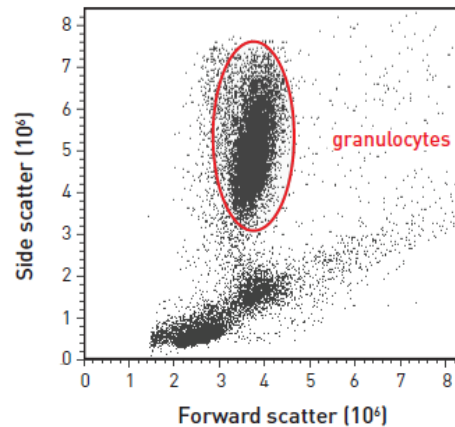
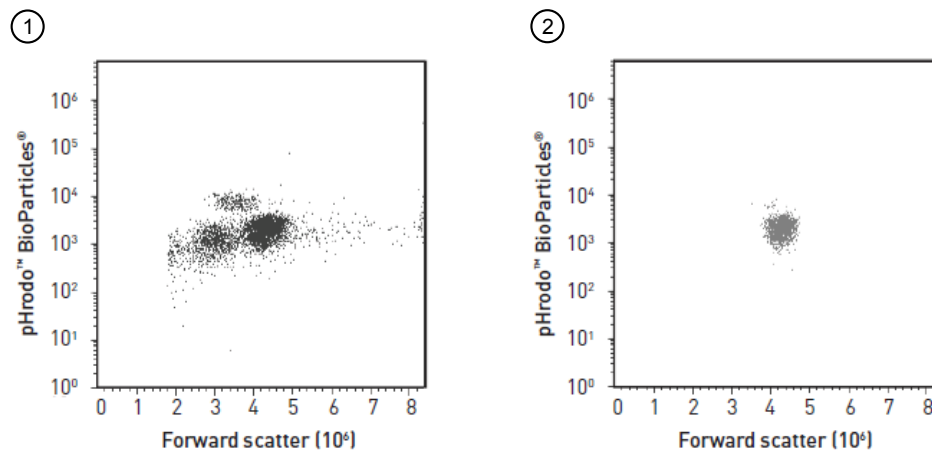

Figure 2 Whole blood sample: FSC vs. SSC
Figure 3 Whole blood sample: FSC vs. fluorescence
2. To analyze samples, set up two dot plots: one showing forward scatter (FSC) vs. side scatter (SSC) (see Figure 2), and another showing FSC vs. fluorescence (see Figure 3).
The same sample as shown in Figure 2 with the pHrodo™ fluorescence signal on the Y-axis.
- ① Fluorescent intensities of the various white blood cell populations ② Fluorescence signal of the gated granulocyte population alone
3. Apply a negative control sample (whole blood aliquot without pHrodo™ BioParticles™ conjugates that went through the lysis procedure, tubes 1 or 2), and set linear FSC and SSC voltages to locate the white blood cell scatter pattern as in Figure 2. For FSC vs. fluorescence, set fluorescence on a log scale and set events in the lowest decade. Adjust threshold(s) to eliminate debris.
4. Draw a region around the granulocyte population as shown in Figure 2, and apply the gate as in Figure 3. Adjust the fluorescence PMT (photomultiplier tube) voltage if necessary.
5. Apply the positive control sample (tube 3) or an experimental sample incubated at 37°C to locate the granulocyte population as in Figure 2, apply to Figure 3, then observe the difference in fluorescence between the negative control sample and the positive control or experimental sample. Adjust the fluorescence PMT voltage if necessary.
- ① The same figure as Figure 3, showing a population of granulocytes that have phagocytosed pHrodo™ BioParticles™ conjugates.
- ② A control sample in which phagocytosis was inhibited by incubating on ice, demonstrating the lack of fluorescence because pHrodo™ BioParticles™ conjugates were not in acidic phagosome compartments, and any attached particles show very low fluorescence.
- ③ A histogram overlay of (1) and (2) showing the fluorescence separation between the experimental and negative control sample.